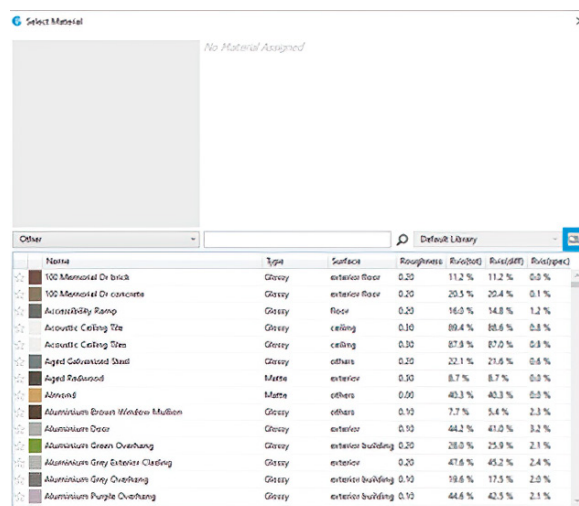

Figure 8 Select material prompt, \*Manage Lighting Material Libraries
- Step 5 To assign a window with MicroShade®, click on the material field next to the Window layer. A prompt will now open, where you click "Manage Lighting Material Libraries", marked with blue in figure 8